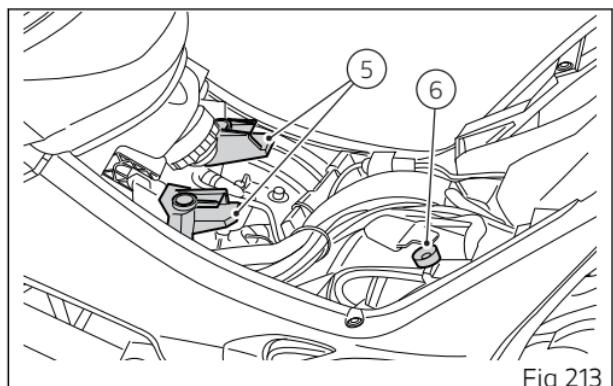

Fig 213
Position rider seat (4) front end, with slots (7), into guides (5, Fig 213) and engage pin (6, Fig 213) into its housing (8).
Make sure that pin (6, Fig 213) is engaged in its housing (8).